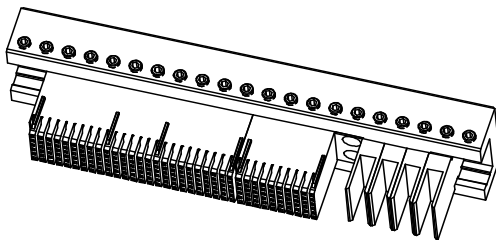

Figure 2-4
- Now tighten the M3 set screws against the modules with one (1) screw against each power module inserter and each alignment block; and two (2) screws evenly spaced on a 6 by 10 header insertion module; and at least three (3) screws evenly spaced on a 6 by 25 header insertion module. Figure 2-4 shows a typical completed assembly.